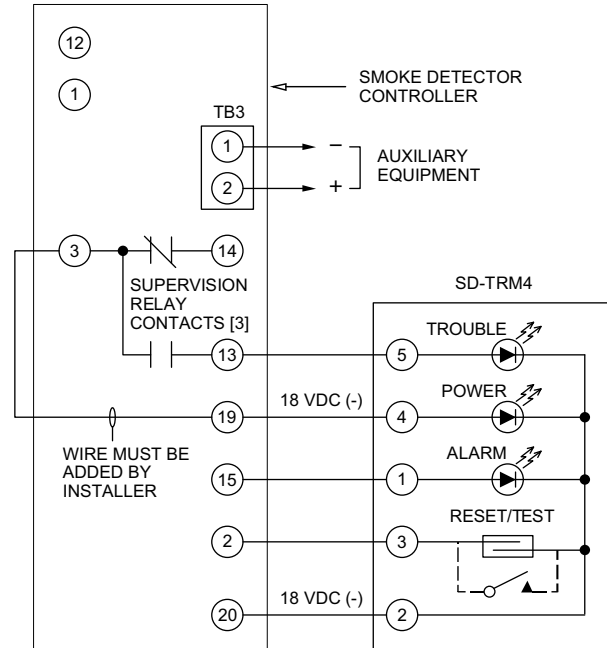

Fig. 42 — Remote Test/Reset Station Connections
be wired to the controller as shown in Fig. 42 and configured to operate the controller’s supervision relay. For more information, see “Changing the Dirty Sensor Test.”
1. Verify that the remote test/station is wired as shown in Fig. 42. Repair or replace loose or missing wiring.